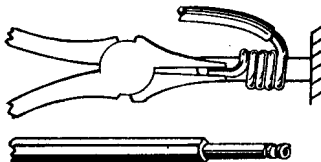

Figure 13. Removing Wrapped Connection.
- a. The spiral may be unwound with an unwrapping tool or pliers (Figure 13) or, if there is sufficient slack, by hand.